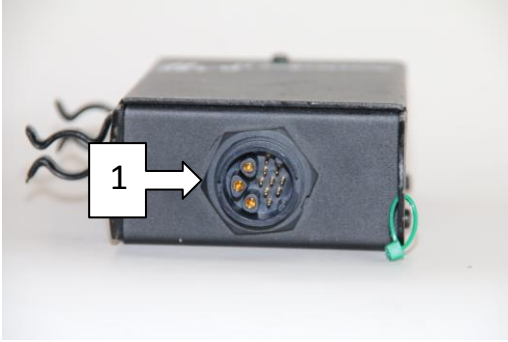

Fig. 5
- Connect the **Power IN** and **Network IN** with a multi-pin link cable to the Booster Box (see Fig. 5).